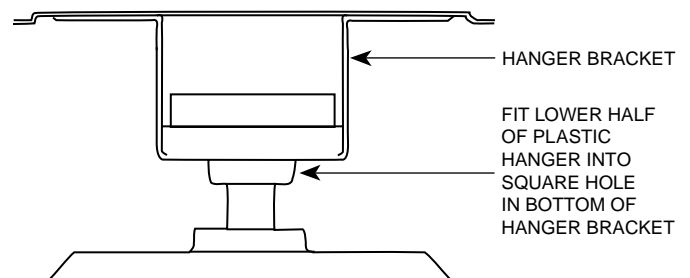

FIGURE 8
- B. Rotate the motor and plastic hanger assembly until the lower half of the plastic hanger fits into the square opening in the bottom of the metal bracket. Check the assembly by trying to rotate the motor and plastic hanger assembly. When properly installed the upper part of the plastic hanger will sit flat inside the hanger and the assembly will not rotate. See Figure 8.